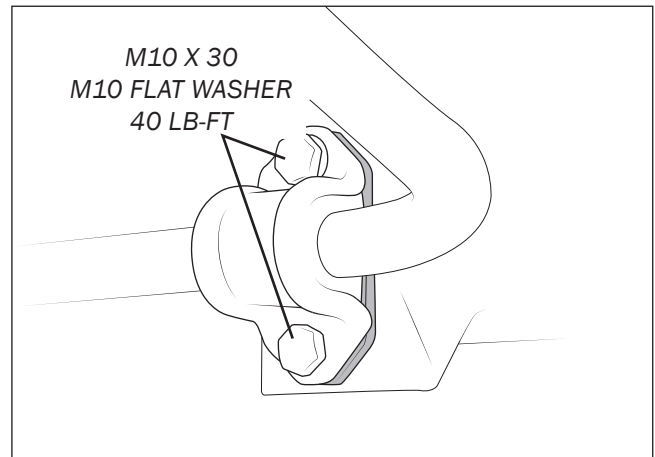

Figure 9
2. Install the sway bar spacer plate behind the right side of the sway bar with supplied hardware and torque to **40 lb-ft** (fig. 9).